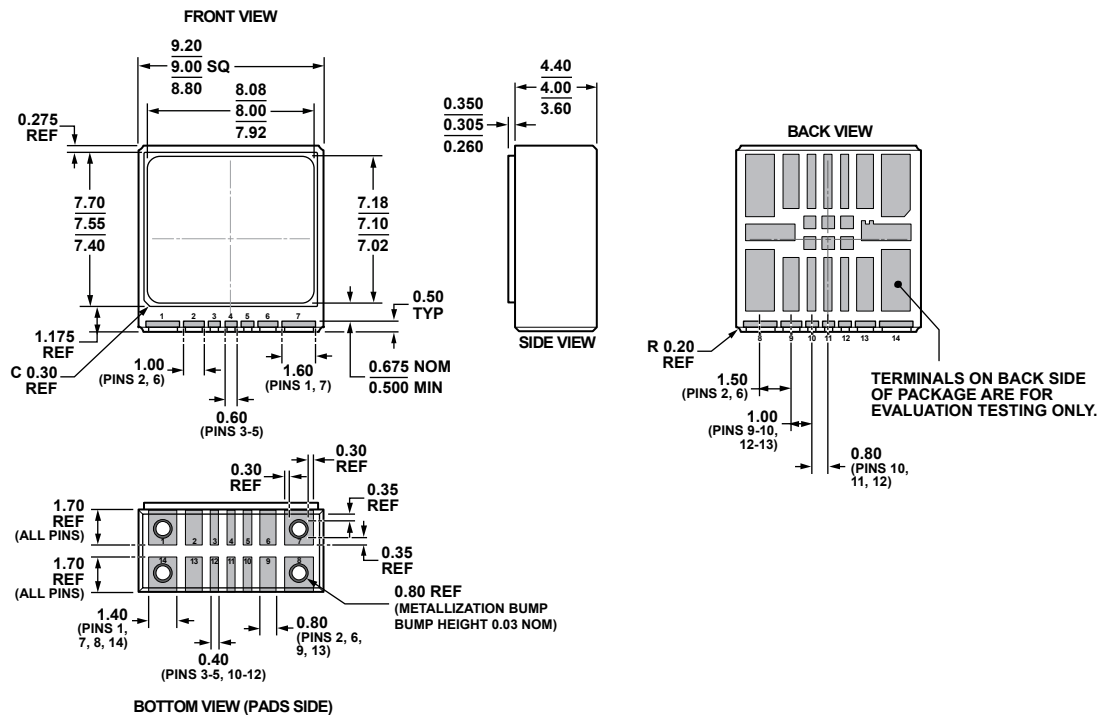

Figure 38. 14-Terminal Ceramic Leadless Chip Carrier, Vertical Form [LCC_V]
1. THE PACKAGE HAS TERMINALS ON TWO FACES. HOWEVER, THE TERMINALS ON THE BACK ARE FOR INTERNAL EVALUATION ONLY AND SHOULD NOT BE USED IN THE END APPLICATION. THE TERMINALS ON THE BOTTOM OF THE PACKAGE INCORPORATE METALLIZATION BUMPS THAT ENSURE A MINIMUM SOLDER THICKNESS FOR IMPROVED SOLDER JOINT RELIABILITY. THESE BUMPS ARE NOT PRESENT ON THE BACK TERMINALS AND, THEREFORE, POOR SOLDER JOINT RELIABILITY CAN BE ENCOUNTERED IF THE BACK TERMINALS ARE USED IN THE END APPLICATION. FOR THE OUTLINE DIMENSIONS OF THIS PACKAGE, SEE FIGURE 38.